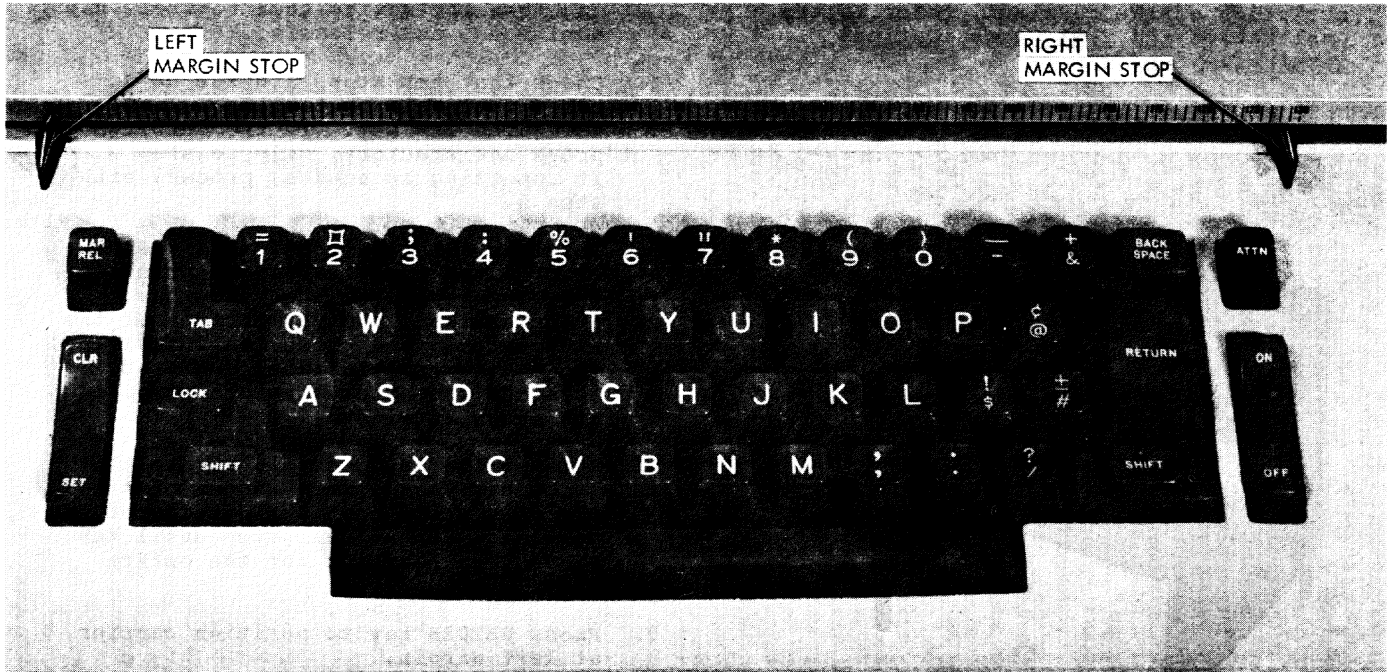

Figure 6. IBM 2741 Controls
5. To clear all tab stops, move the carrier to the right margin by pressing the TAB key and/or the space bar; press and hold the CLR portion of the tab control; and press the RETURN key. The tab control is labeled CLR SET. This and the other controls involved are shown in Figure 6.
that of the Selectric typewriter (in which case the terminal is known as the 2741 correspondence terminal), or it may be as shown in Figure 6. (To work correctly with TSS, the correspondence terminal requires the Interrupt Feature 4708 and the Transmit Interrupt RPQ E-40681.)
Figure 6 shows the keys and controls of a 2741 keyboard. The numeric and special character keys, the space bar, and the LOCK, SHIPT, MAR REL, and TAB keys operate in the same way as standard IBM typewriter keys. Note, however, that unless a specific command is entered to determine the mode (see "Specifying SYSIN Device and Character Sets," in this section, and Appendix A) no distinction is made between uppercase and lowercase alphabetic (A-Z) characters; they are all interpreted as uppercase characters by the system. See Appendix A for the 2741 character sets.